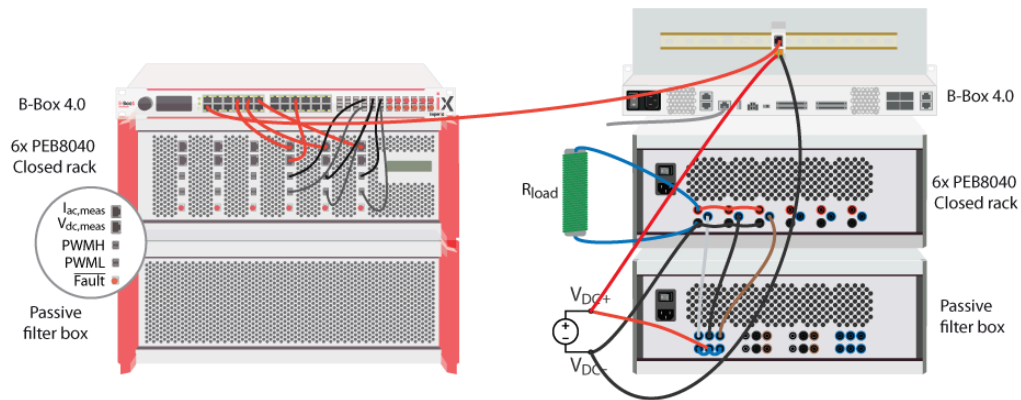

Figure 2. Interleaved boost converter wiring schema
The wiring of the system is executed as shown in Fig. 2. The main points to consider are as follows:
- The DC source is correctly connected by linking DC+ to the outputs of the inductors, connected in star configuration, and DC- to VDC- of the modules (see Fig.2).